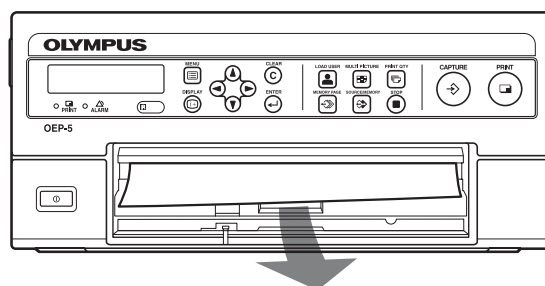

Figure 4.4
- 3 Remove the jammed paper sheet (see Figure 4.4).